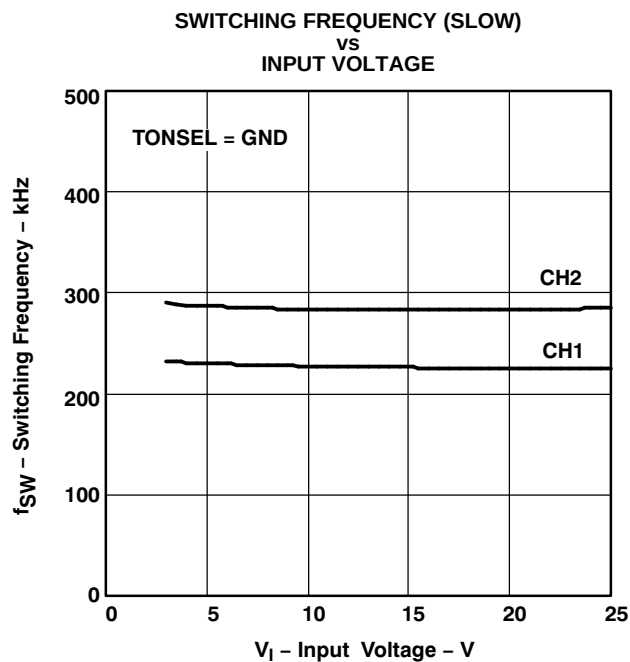

Figure 6. ⁽¹⁾
(1) The data of Figure 6–Figure 8 are measured from the Typical Application Circuit of Figure 25 and Table 2.